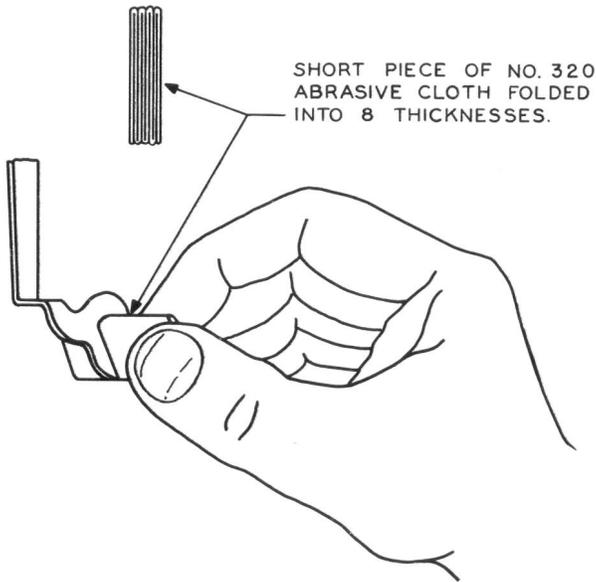

Fig. 9 – Polishing of Fork Slot
- (1) Clean and lubricate fork and vane stem as follows:
- (a) Surfaces of fork slot should be smooth. If bearing surfaces of fork are so rough that they cannot readily be made smooth, replace relay. Otherwise, smooth rough spots using No. 320 or finer abrasive cloth folded as shown in Fig. 9.